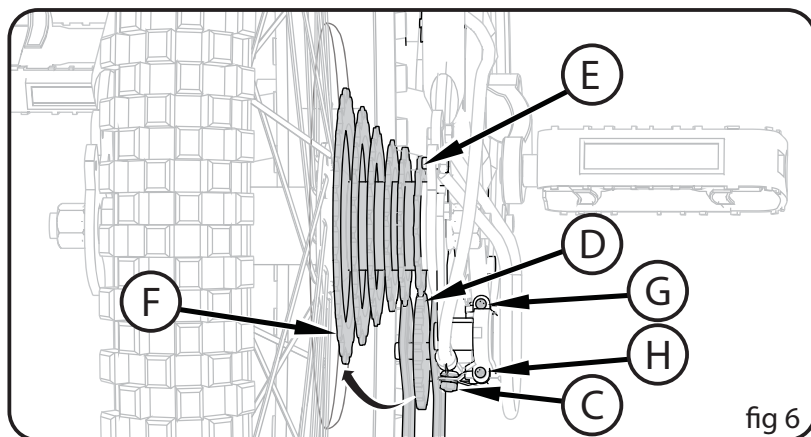

fig 6
- Turn the "high" adjusting Screw **G** so the Jockey Roller **D** is in line with the outside edge of the smallest rear Sprocket **E** (fig 6)